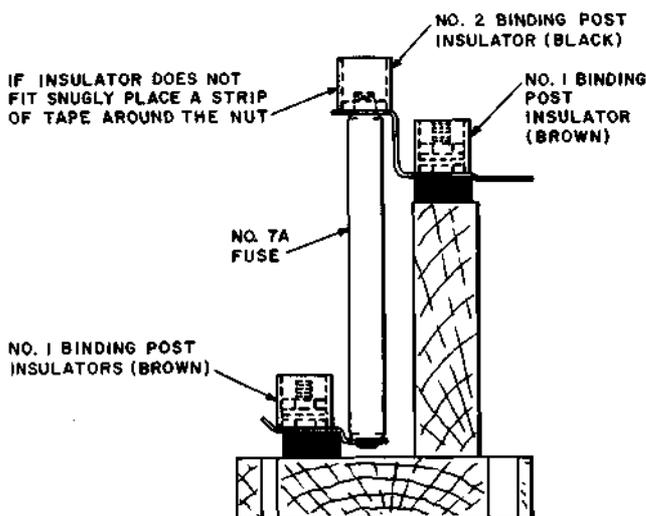

Fig. 36—No. 1 and 2 Insulators on 7-Type Fuse Protector
**16.18** On main distributing frames equipped with the 7-type fuse protector, the special circuits may be identified at the fuse by the No. 1, No. 2, and No. 3 binding post insulators. The No. 1 insulator is used over the binding posts equipped with hexagonal nuts measuring 3/8 inch across the flats and also the 7T fuse. The No. 2 insulator is used over binding posts having nuts measuring 7/16 inch across the flats and also the 7A fuse. The No. 3 insulator is used over the screw-type binding posts of the BD-type cable terminals. (See Fig. 36.)